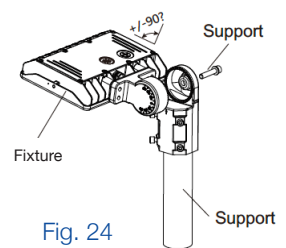

Fig. 24
1. Connect power supply wires in pole. Then fasten the locking bolts between the slipfitter and the pole (Fig. 24).
2. Loosen the fixing bolts and adjusting bolts. Adjust fixture angle as desired and re-tighten adjusting bolt and fixing bolts. **Note:** Adjustable angle is 0-90° (Fig. 24).